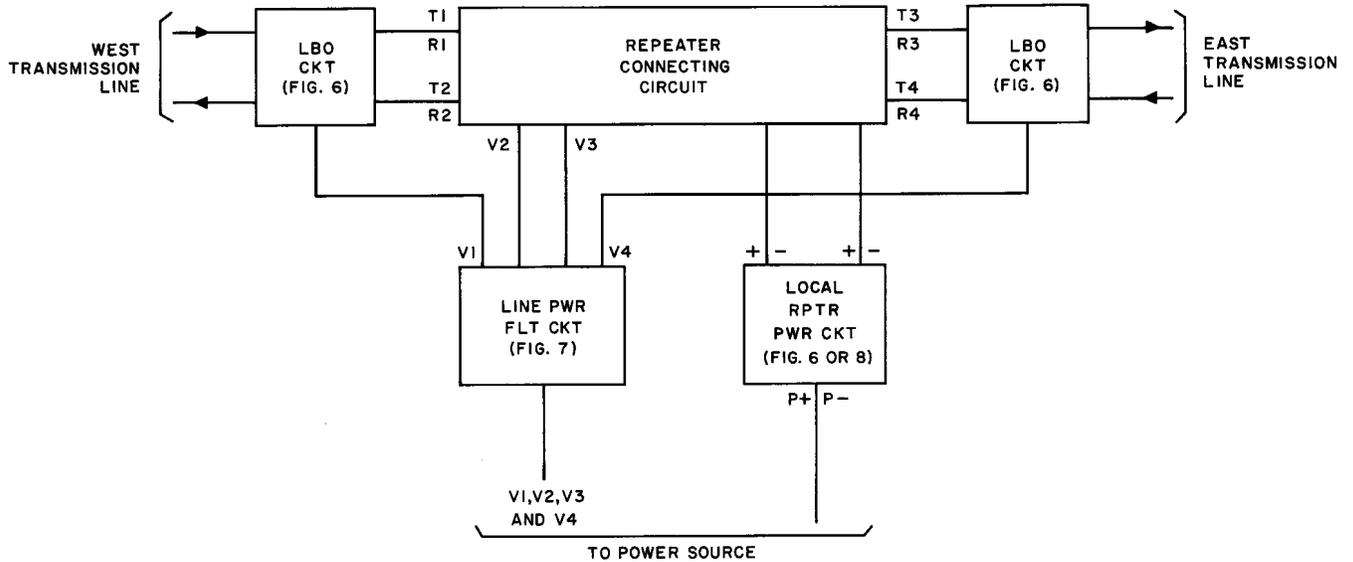
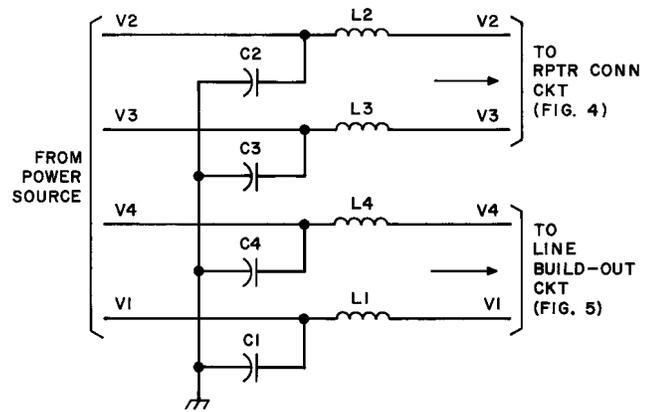

Fig. 2 — Repeater Mounting Shelf — LBO Bay Not Furnished — Block Diagram
Fig. 7 — Line Power Filter Circuit
3.01 The N2 repeater connects to the outside cable pairs through line build-out, line protection, and line powering facilities which may be provided in the repeater mounting shelf or in a separate line build-out bay if one is provided. The separate line build-out bay and associated cross-connect bay are provided, as required for assignment flexibility, only at repeater installations where local power is available. Fig. 2 and 3 illustrate, in simplified form, the various circuits which make up the repeater mounting shelf when a line build-out bay is used and when it is not used.
3.06 When local power is not provided, a repeater must receive power from a remote power point. In this case power is received from the east cable simplex, on leads V1 and V2, or from the west cable simplex, on leads V3 and V4, through the line filter circuit shown in Fig. 7. The repeater power leads P+ and P- connect directly to leads V1 and V2, or leads V3 and V4, when the received power terminates at this point. The P+ and P- leads may also be connected to leads V1, V2, V3, and V4 in an arrangement which connects the repeater power circuit in series with
3.07 Power may be transmitted from a power point to remote repeaters and 240-type amplifiers by connecting the power source to the simplex leads V1 and V2 or V3 and V4 in the mounting shelf of a locally powered repeater. This is done through the line power filter circuit shown in Fig. 7, in conjunction with Fig. 2.